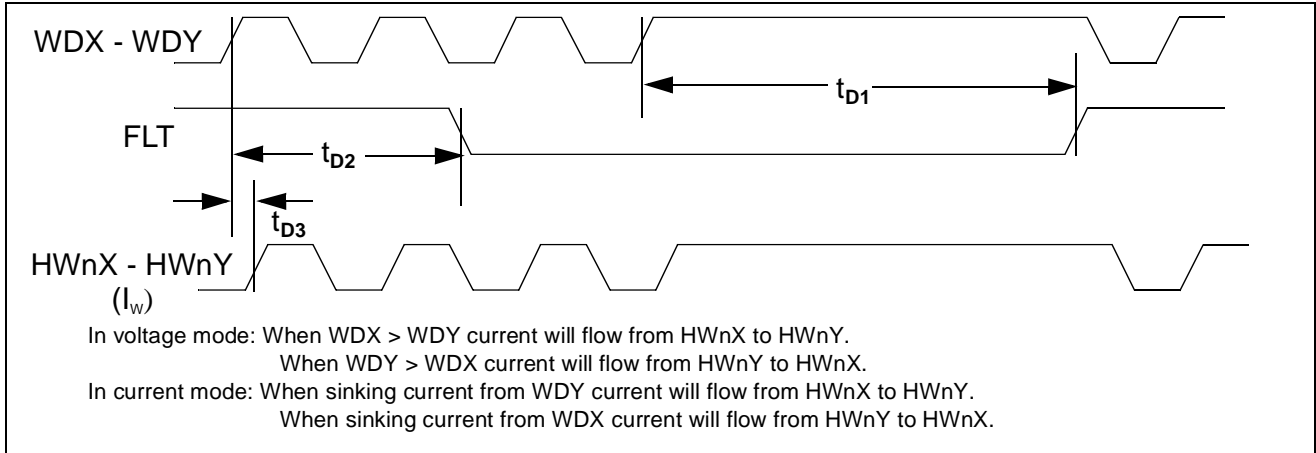

Figure 64 Write Mode Timing Diagram *
1. See Figure 64 for the write mode timing diagram.